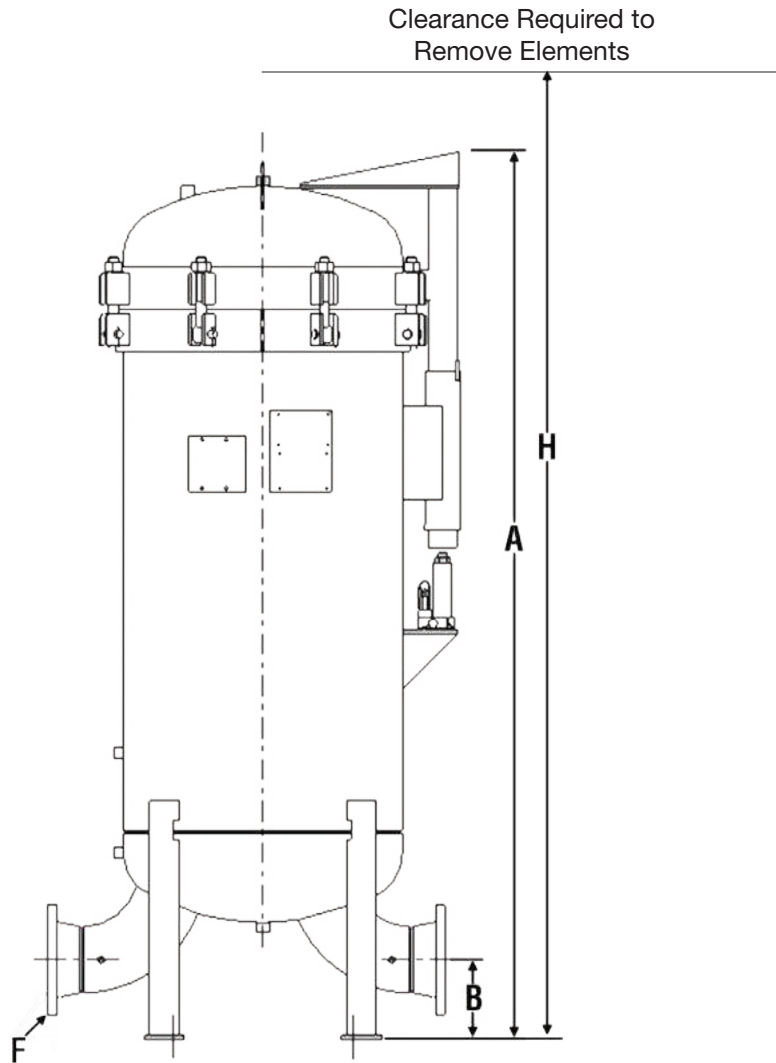

Figure 1
- Element qty required: (4) Coalescer, (3) Separator
- Customer must supply the length for Dimension B referenced in Figure 1 on page 94.